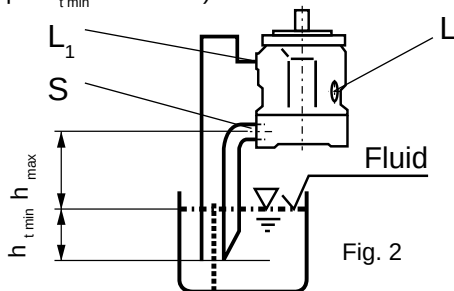

Fig. 2
b) If the minimum fluid level is below the pump mounting surface pipe port "L₁", and possibly "S" according to Fig. 2. Close port "L" with respect to conditions in 1.2.1.
Before installation fill pump housing, keeping it in a horizontal position. For mounting above tank see Fig. 2.